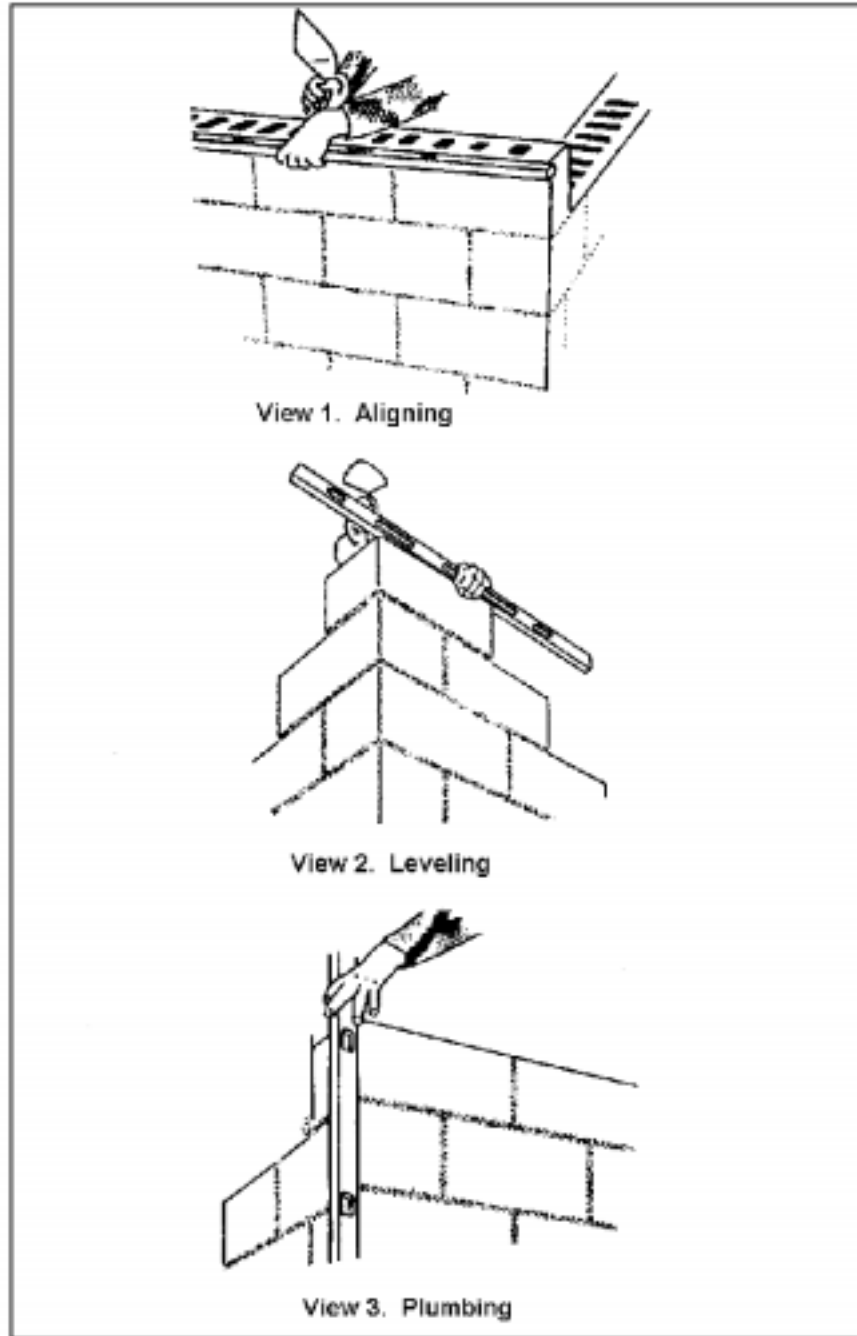

Figure 051-236-1146-3
- f. Step 6. Check the horizontal block spacing by placing a level diagonally across the corners of the blocks (Figure 051-236-1146-3).